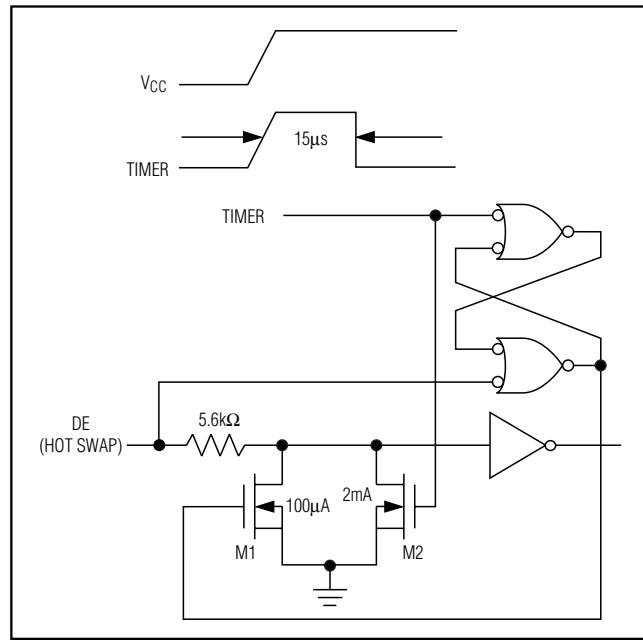

Figure 10. Simplified Structure of the Driver Enable Pin (DE)
At the driver-enable input (DE), there are two NMOS devices, M1 and M2 (Figure 10). When  $V_{CC}$  ramps from zero, an internal  $15\mu s$  timer turns on M2 and sets the SR latch, which also turns on M1. Transistors M2, a  $2mA$  current sink, and M1, a  $100\mu A$  current sink, pull DE to GND through a  $5.6k\Omega$  resistor. M2 pulls DE to the disabled state against an external parasitic capacitance up to  $100pF$  that may drive DE high. After  $15\mu s$ , the timer deactivates M2 while M1 remains on, holding DE low against tri-state leakage currents that may drive DE high. M1 remains on until an external current source overcomes the required input current. At this time, the SR latch resets M1 and turns off. When M1 turns off, DE reverts to a standard, high-impedance CMOS input. Whenever  $V_{CC}$  drops below  $1V$ , the input is reset.